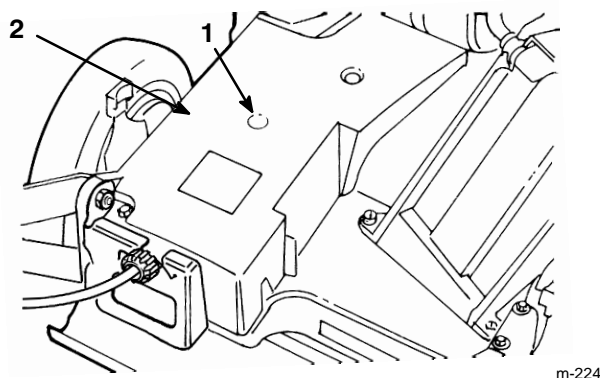

Figure 28
2. Install grease gun onto fitting thru belt cover opening (Fig. 28). Gently apply 1–2 pumps of grease.
1. Remove bolts securing belt cover (Fig. 28) to mower housing.